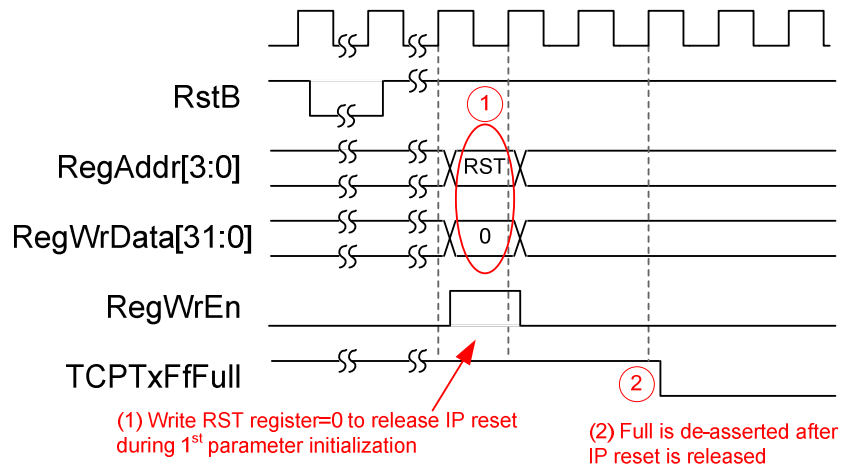

Figure 5: TCPTxFfFull de-asserted from IP reset is released
- 2) After ConnOn='1' and CMD register still not set to Send data mode. The read pointer of TxBuffer is related to the acknowledge number of returned ACK packet. When port is opened (ConnOn='1'), the acknowledge number and read pointer will be updated which is effect to TCPTxFfFull asserted. The write pointer of TxBuffer will be updated when user sets CMD register=Send Data, so TCPTxFfFull will be de-asserted, as shown in Figure 5.